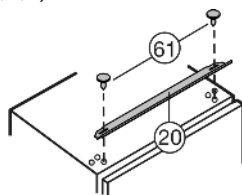

Fig. 12
- ▶ Screw Fig. 12 (61) the equalizer trim Fig. 12 (20) to the appliance through the oblong holes on top.
- ▶ Slide the equalizer trim Fig. 12 (20) toward the handle side as far as it will go.